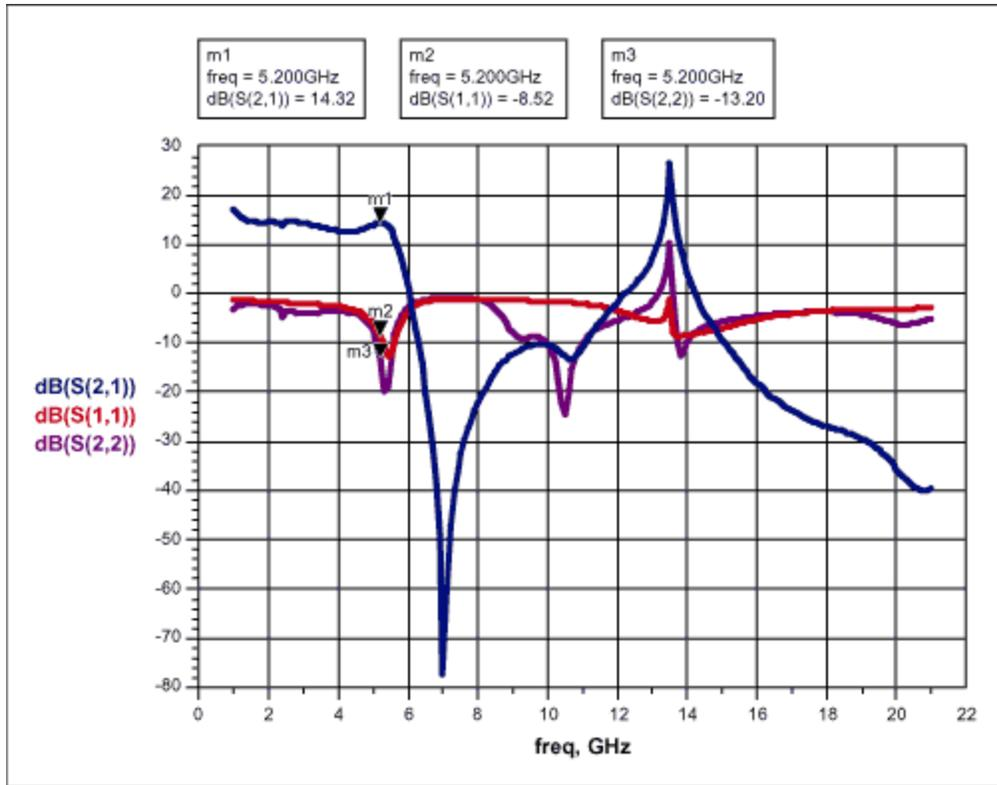

Figure 1. ADS simulation with lumped matching components.
**Figure 1** is an ADS simulation plot showing an unstable circuit around 13.5GHz. The output match in this case uses all lumped components, as shown in the schematic below.